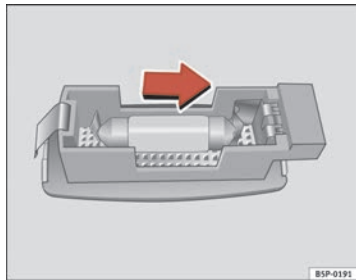

Fig. 204 Removing sun visor light
- Carefully remove the lamp, using the flat side of the screwdriver, as shown in the figure ⇒ fig. 204.
- Remove the bulb, moving it in the direction of the arrow and outwards ⇒ fig. 204. ■